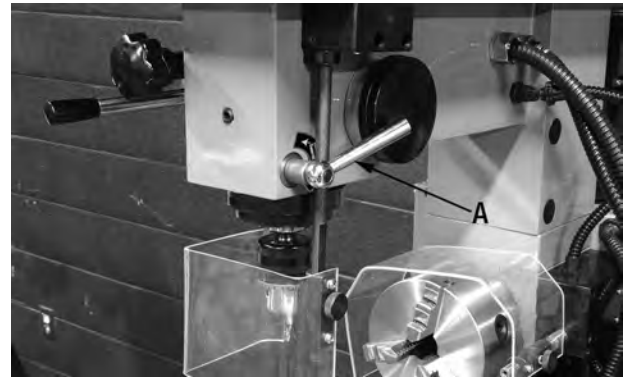

FIGURE 41
The height of the Mill/Drill spindle can be locked with the quill lock lever (A) Fig.41. Set the desired height of the spindle, and then lock the spindle with the quill lock lever.